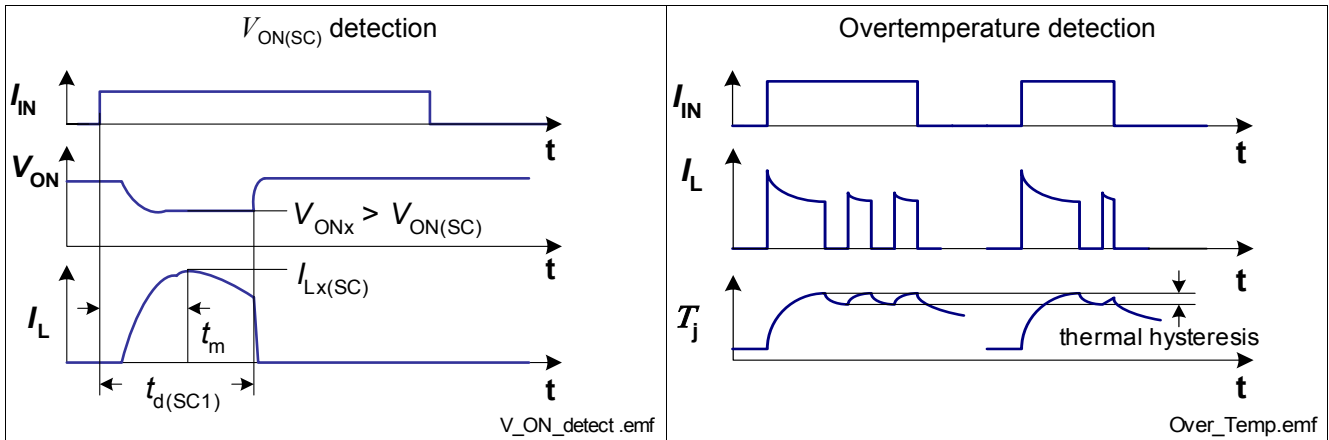
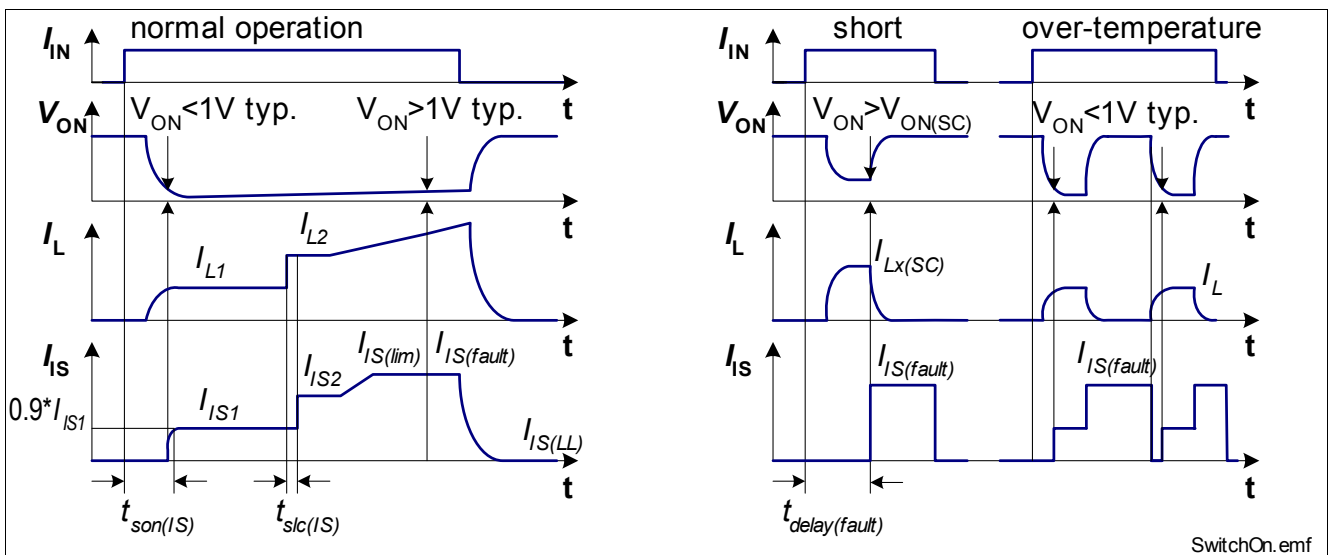

Figure 12 Overload Behavior
Figure 19 Timing of Diagnosis Signal in ON-state
In the event that either the short circuit detection via $V_{ON(SC)}$ is not activated or that the on chip temperature sensor senses overtemperature before the blanking time $t_{d(SC1)}$ expired, the device switches off resulting from overtemperature detection. After cooling down with thermal hysteresis, the device switches on again. The device will react as during normal switch on triggered by the input signal. Please refer to Figure 12 and Figure 19 for details.
- 2) Short circuit current limit for max. duration of $t_{d(SC1)}$, prior to shutdown, see also Figure 12.
Details about timings between the diagnosis signal I_{IS} , the forward voltage drop V_{ON} and the load current I_L in ON-state can be found in Figure 19.